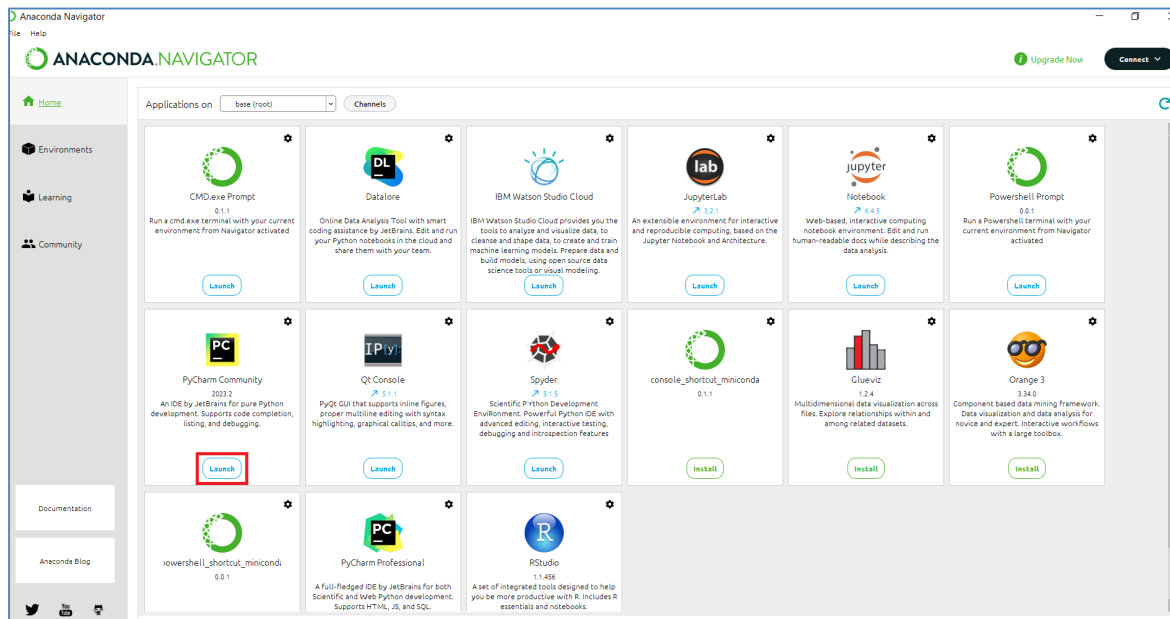

Figure 10 Launch Anaconda Navigator
- In the home window PyCharm will be shown as a package. Click PyCharm “Launch” button as shown in Figure 10 to launch PyCharm.